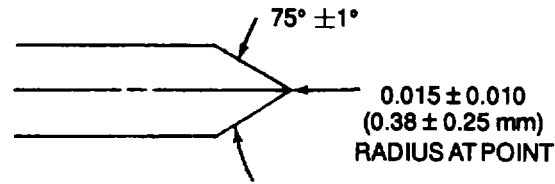

Figure 9-48. Wheel Dressing Tool
- (2) Dress grinding wheel. Dress the radii of the grinding wheel to blend smoothly with the sides and face of the wheel. Failure to properly dress the radii will result in a small barely visible groove in the wheel. This will form a stress riser in the journal that can lead to breakage of the shaft. Dress the grinding wheel as follows:
- (a) Use an industrial diamond in the wheel dresser that has been lapped to a cone having a 75 degrees included angle with a point radius of 0 .005 to 0.025 inch (0.001 to 0.64 mm). The point of the cone is to be on the centerline of the shank (Figure 9-48).